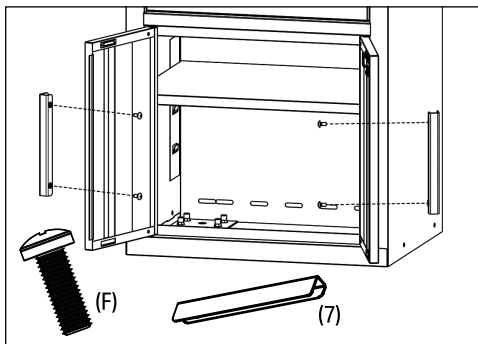

Fig. 2
7.2 Fitting the Cabinet (1), (4), (5) Door Handles (Fig.2)
- Attach the door handles (7) to the front of the drawers or doors using M5 flat head bolts (F) \times 2 per handle.